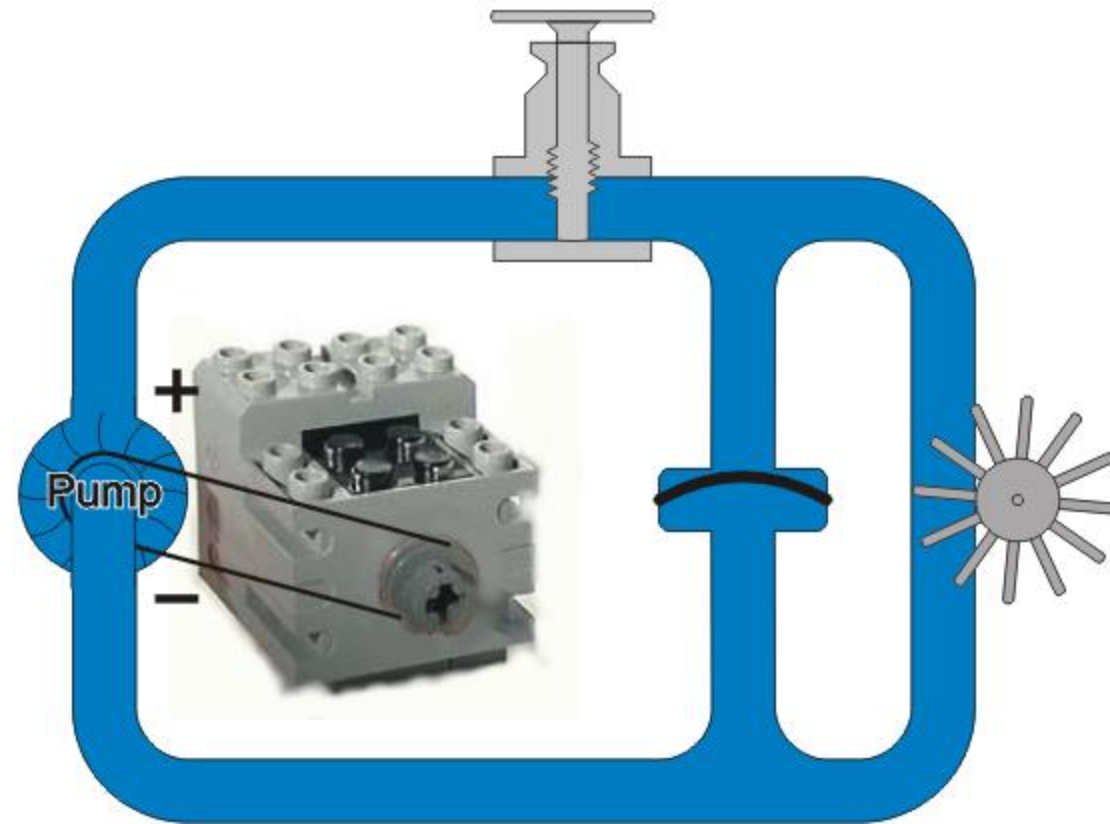

Fig 24: A fully stretched membrane.
- As the membrane is stretched, a force is exerted in the opposite direction which opposes the rotation of the wheel until the membrane is fully stretched and the water wheel stops, as is shown in **Fig.24**.